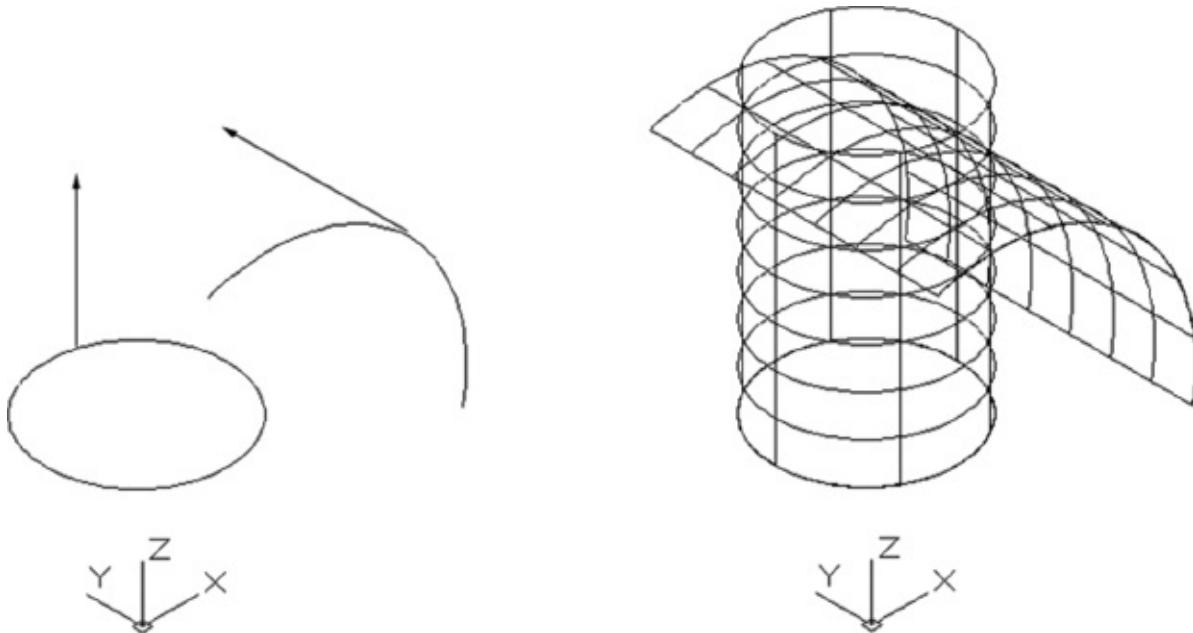

FIGURE 23.43 Extrude the circle and arc (left image) 5 units to look like the image on the right.
4. Adjust the surface height to 5 units so that it looks similar to Figure 23.43 on the right.
5. Repeat the Extrude command to extrude the arc in the drawing 5 units in the direction shown on the right side of Figure 23.43.